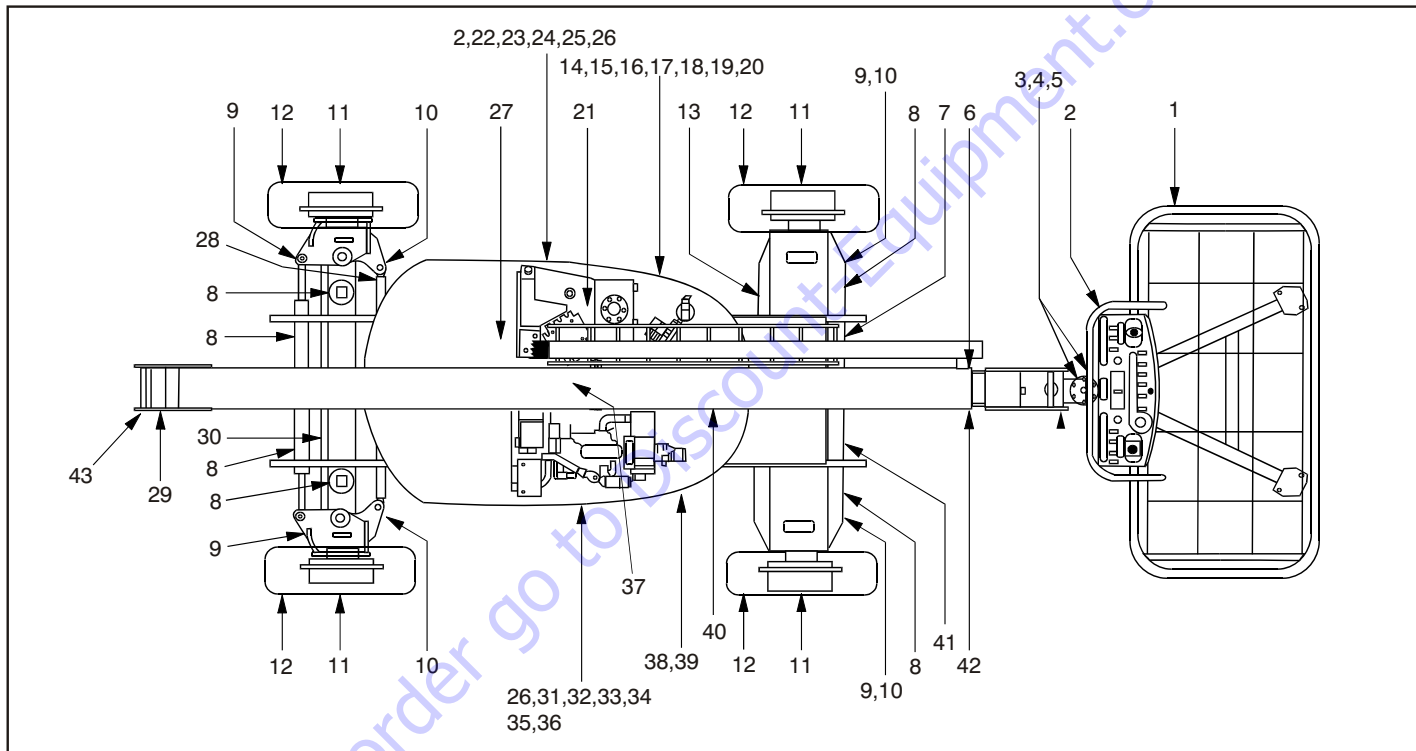

Figure 2-2. Daily Walk-Around Inspection. (Sheet 1 of 4)
5. **“Walk-Around” Inspection** – Refer to Figure 2-2. thru Figure 2-5.